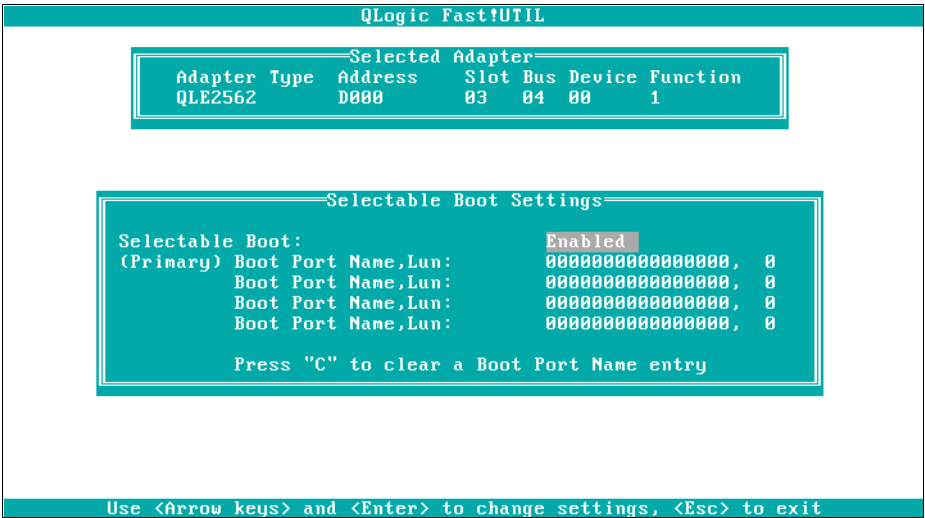

Figure 2-25 Enabling Selectable Boot
4. Select **Selectable Boot Settings** and press Enter, as shown in Figure 2-25. Then **Enable** the **Selectable Boot**, because it is disabled by default. Arrow down to the **Primary Boot Port Name** and press Enter.